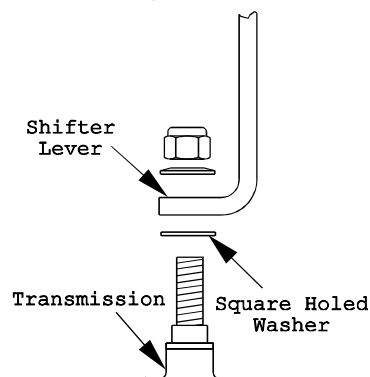

FIGURE 4
- a) Remove the 3/8" nyloc nut and spring disc washer from the stud on top of the transmission. Install the shifter lever through slot in shifter lever plate and onto the stud on top of transmission. Be sure the square-hole washer remains between the lever and transmission. Replace the spring disc washer and nyloc nut (see figure 4). Torque the 3/8" nut to 35ft-lbs. (47N.M).